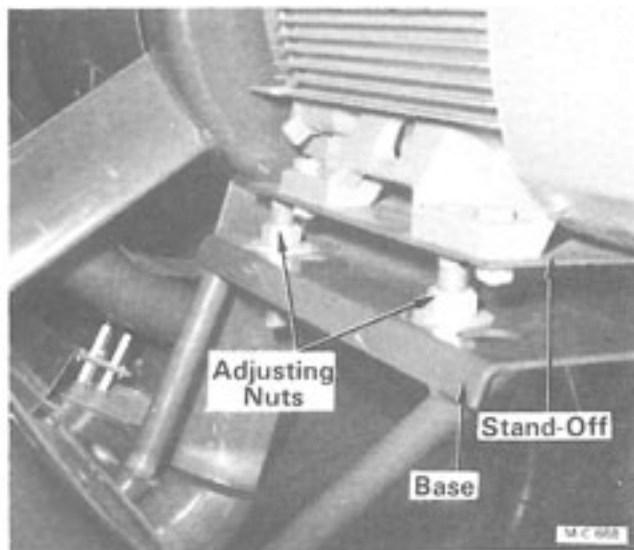

Figure 6
2. To adjust fan clearances, loosen the four locknuts under the motor base and turn the adjusting nuts on top to raise or lower the motor. See Figure 6. The holes in the base are slotted to allow for side to side adjustment. Tighten locknuts after adjustment has been completed.